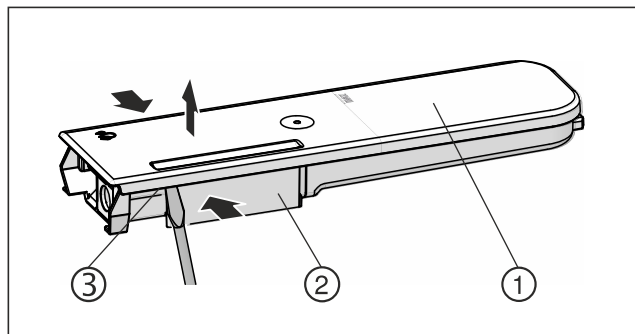

Fig. 146
- ▶ Push the water tanks Fig. 146 (2) together, leverage the cover Fig. 146 (1) carefully over the latching tabs Fig. 146 (3) and lift it up.
- ▶ Move the cover Fig. 146 (1) slightly forwards and back, and remove to the top.